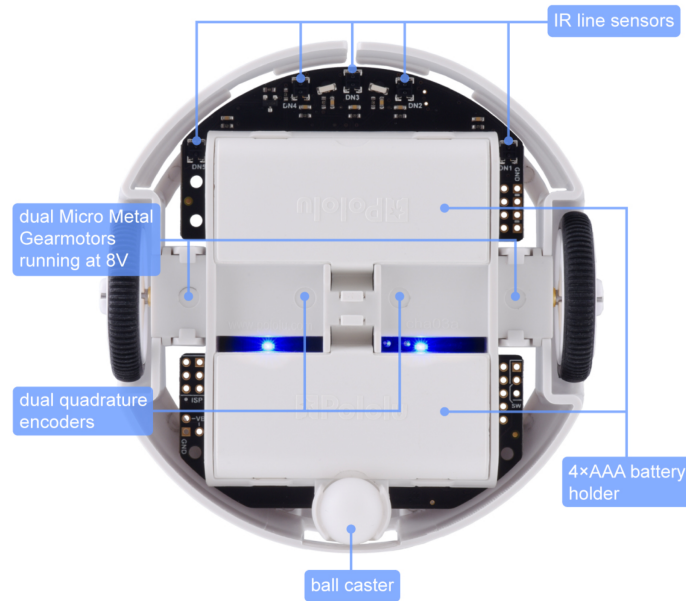

Figure 1.5: Underneath view of the 3pi+ robot. The IR line sensors are placed at the front.
The 3pi+ line sensor array is a separate board that attaches to the main underneath board, placed in front of the robot as shown in Figure 1.5. The board features five line sensors connected to the microcontroller. The five line sensors face downward and can help the 3pi+ robot distinguish a non-reflective (black) line on a reflective (white) surface. Each reflectance sensor consists of a down-facing analog infrared (IR) emitter LED (Light-Emitting Diode) paired with a phototransistor that can detect reflected IR light from the LED. Three of the five sensors are placed in the middle of the board at gaps of about 1 cm and the last two are situated at the far end of both sides such that the total sensor coverage is about 5 cm.